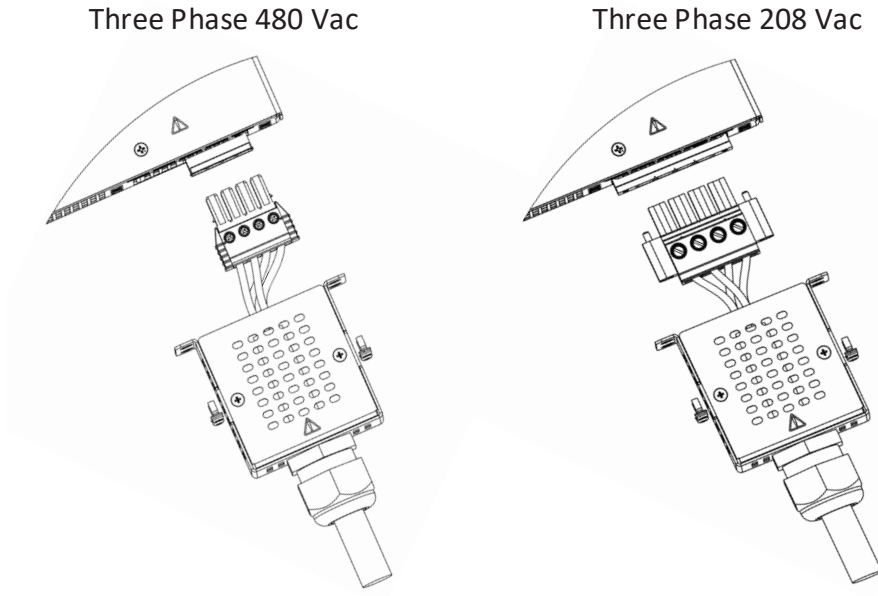

Figure 4-29: AC Wires Fixed to the AC Connector
6. Insert the AC wires into the AC input connector as shown in Figure 4-29.